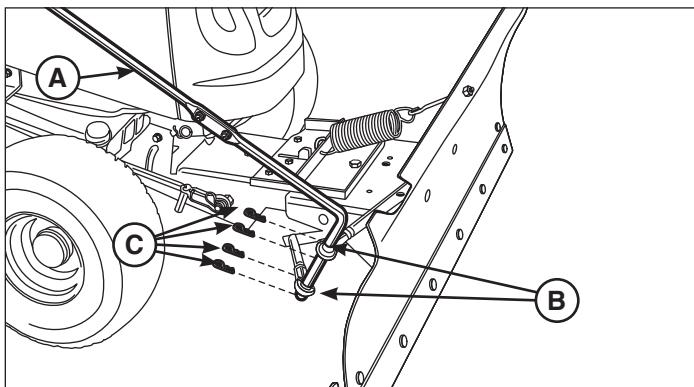

Figure 18
5. Slide the control arm assembly (**A**, Figure 18) through the two adjustment arm joints (**B**). Secure the control arm with four hair pins (**C**).